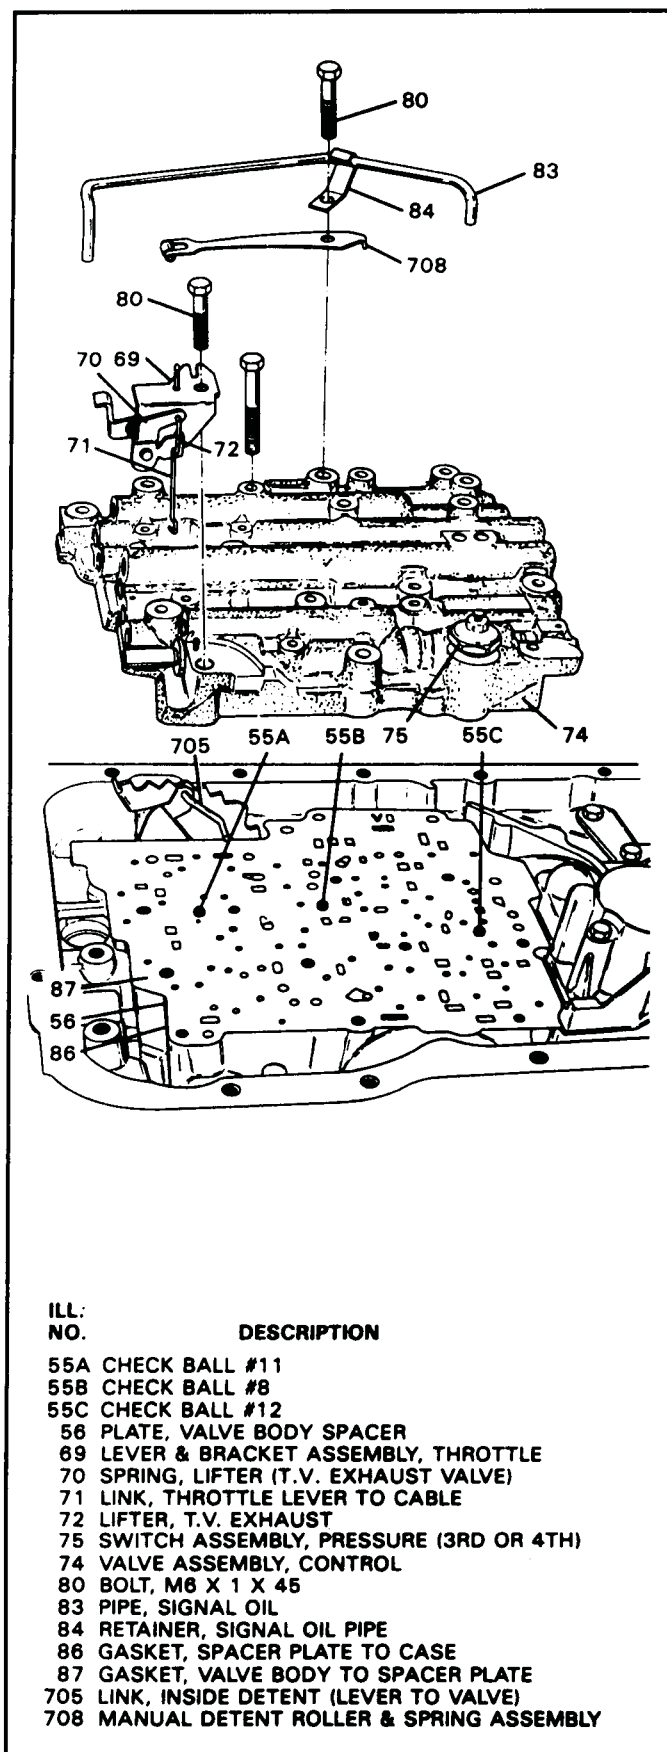

Figure 157
31. Install the signal oil pipe (83) and the bracket, as shown in Figure 157.
32. Install the throttle valve linkage (69) onto the valve body and install retaining bolts as shown in Figure 157.
33. Install the manual lever detent spring and roller (708) as shown in Figure 157 and install the retaining bolt.